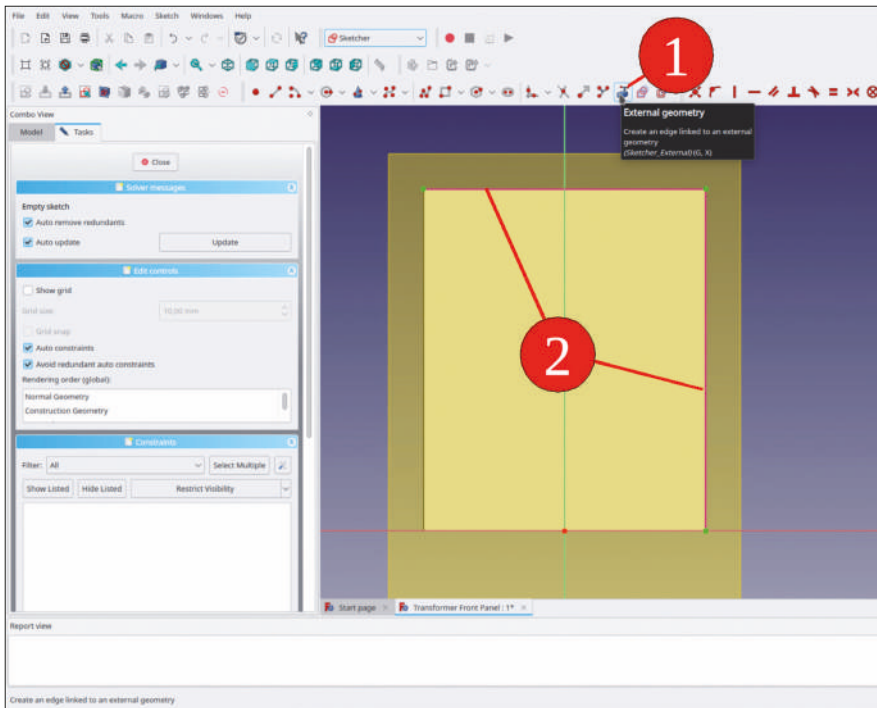

Figure 9-10
11. Click on the 'External geometry' tool button and mark two adjacent lines of the rectangle (Figure 9-10), which are then shown in violet as construction lines.